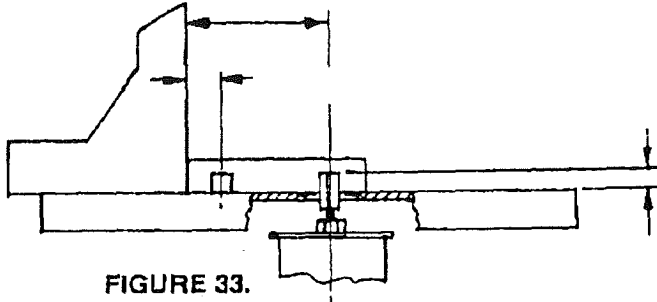

FIGURE 33.
2. Position the fence behind the router bit for the desired cutting depth (the distance of the cut from the edge of the workpiece, as shown in Figure 33).